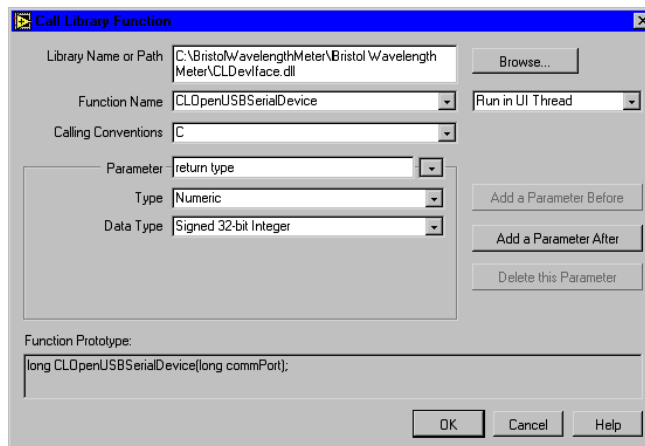

Figure 6.1: Configuration Window for the CLOpenUSBSerialDevice Call
- 7 When finished, the configuration window for the *CLOpenUSBSerialDevice* call should look like Figure 6.1.